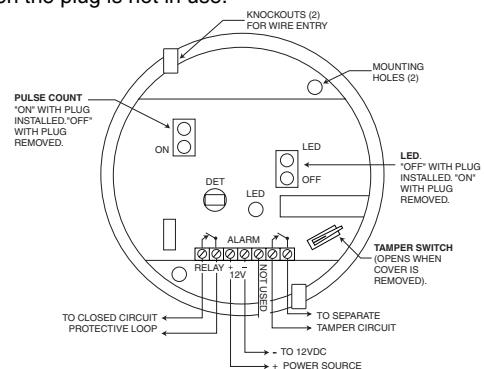

Figure 3. PC Board (in base of PIR)
3. Break out one of the two knockouts that have been provided for wire access (see Figure 3), and pass the wires into the base of the PIR. *Caution: Be certain that wires do not obstruct the detector's field of view.*
4. Connect all wires to the screw terminals (see Figure 3 for wiring details). Seal all openings in the base with foam or RTV (not supplied) to prevent drafts or insects from entering the unit.
The detector is shipped with the Alarm LED disabled (LED enable/disable plug in place). The LED should be enabled (for a walk-test) by removing the LED enable/disable plug (see Figure 3 for location). To prevent the loss of the plug, we suggest you install it on one pin when the plug is not in use. When the walk-test is completed, the LED may be disabled, if desired (plug in place).
This PIR is equipped with a cover tamper switch. With cover on, the switch is closed; when cover is removed, the switch opens. The tamper terminals (see Figure 3) should be connected to the control panel's tamper loop.
Each detector includes Pulse Count circuitry that is designed to provide stability in adverse environments to minimize false alarms. Two-event pulse count is provided by positioning the jumper plug across the pulse count pins (see Figure 3 for location). To select one-event pulse count (instant response), remove the jumper plug. When programmed for 2-event pulse count, the detector will signal an alarm within 3 or 4 steps, since the processing logic requires more complex motion than just a momentary event. When the detector verifies an intrusion, the LED will light and the alarm relay contacts will transfer, both conditions lasting for approximately 1 to 3 seconds (dependent upon signal strength).